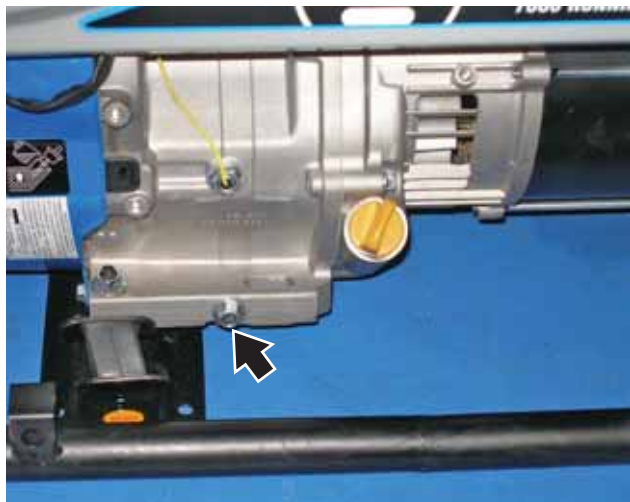

Figure 7-6 – Oil Drain Plug
5. Remove the oil drain plug (see Figure 7-6). Once removed, place the oil drain plug on a clean surface.